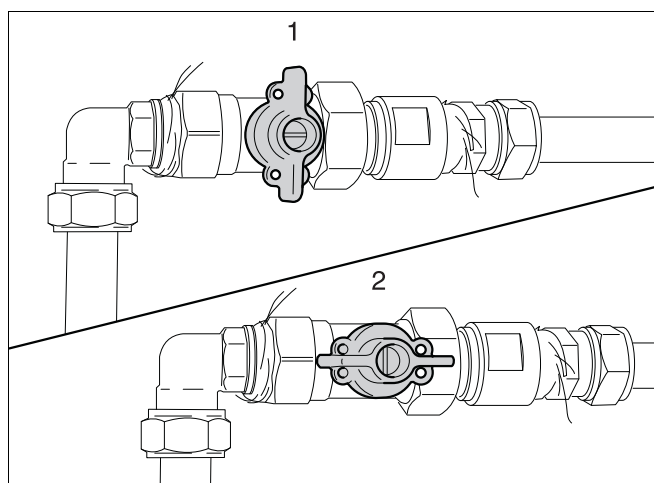

fig. 80 Gas shut-off valve closed (1), gas shut-off valve open (2)
- Open the gas shut-off valve (see fig. 80, pos. 2).